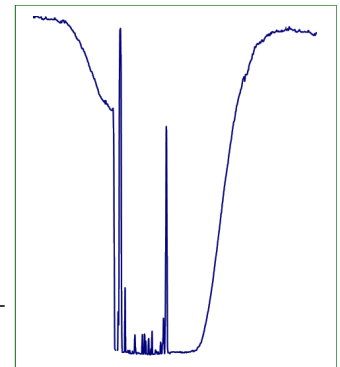

Figure 2 - High Baseline Reset
- **Baseline Recovery** - the baseline UV signal in the example does not reach the same level as of the Baseline. This is a common issue and relates to the diffusion of the oncoming segment into the flow cell. It is possible to have the Baseline Recovery reach the same level as the original Baseline, but this would lead to larger than required segment spacing as illustrated in **Figure 2**.